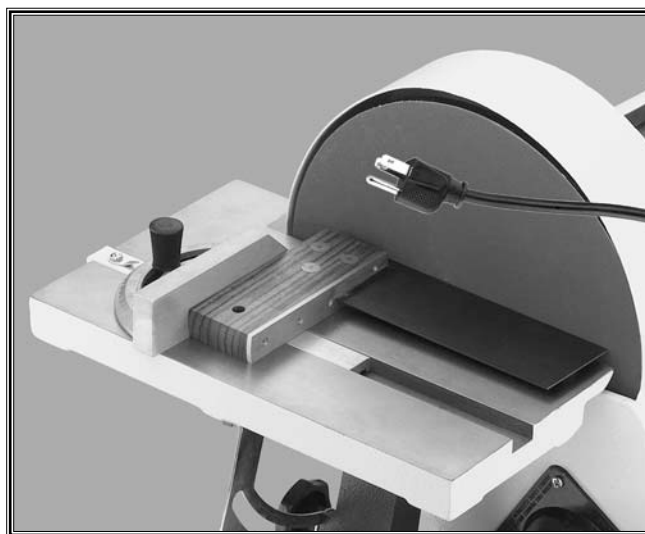

Figure 30. Checking miter gauge alignment.
4. Using a 90° square, check to see if the miter slot is perpendicular to the sanding disc as shown in **Figure 30**.